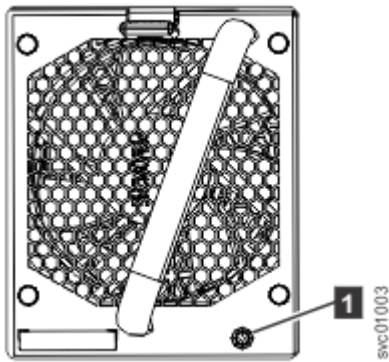

Figure 98. Fan module LED
1. Identify the fan module to be replaced. When lit, the amber LED on the front of the fan module (**1** in Figure 98 on page 95) identifies a fault.